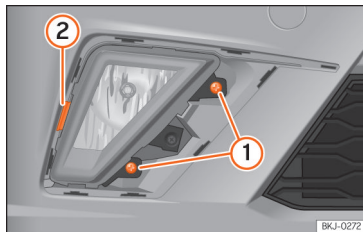

Fig. 165 Fog light: detach the bulb holder
- Remove the two bolts >>> Fig. 165 ① and lever the clip ② to remove the front fog light.